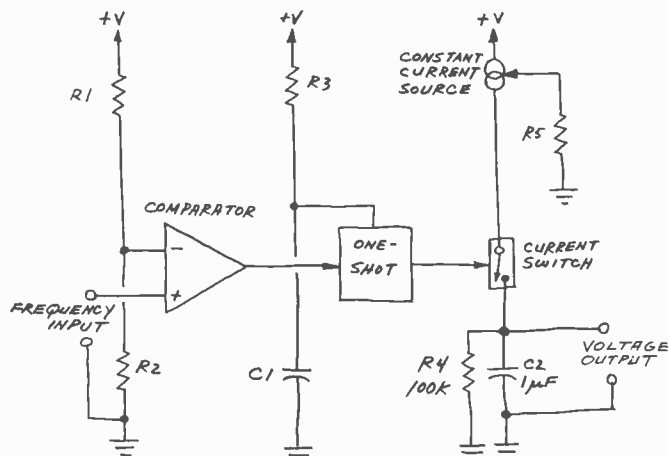
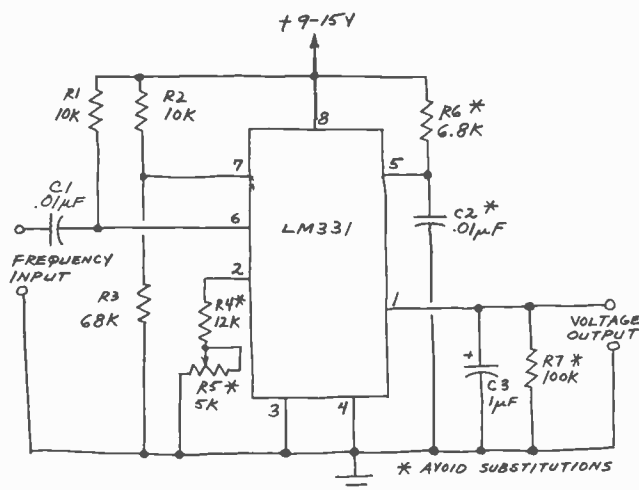
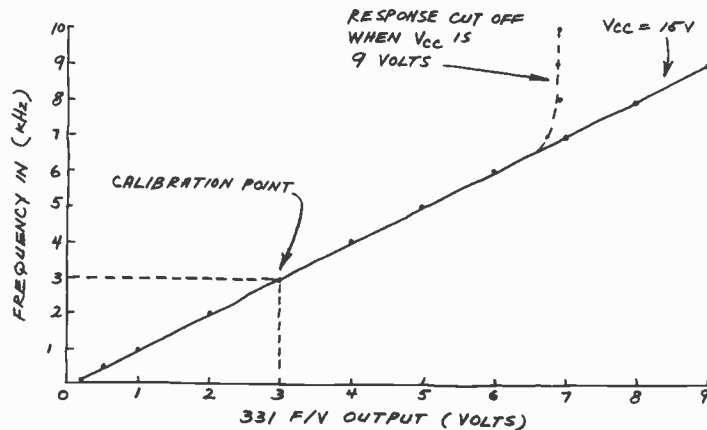

Fig. 1. A typical frequency-to-voltage converter.
Fig. 2. Frequency-to-voltage (F/V) converter using LM332.
Fig. 3. Plot of output voltage vs. input frequency for a frequency-to-voltage converter using an LM331.
**Zener Diode.** A simple circuit in which a zener diode is the regulator element is shown in Fig. 1. Also shown is a typical zener-diode characteristic curve. In the  $V+$  forward-bias region, the zener diode behaves much like any other silicon diode that conducts a +I forward-current when  $V+$  is greater than about 0.6 volt. In the  $V-$  reverse-bias direction, however, there is a distinct difference between zener and conventional silicon-diode behavior.
*Fig. 1. Zener-diode reference supply. The circuit is shown at A, while the characteristic curve is below at B. The fact that the zener voltage is dependent on temperature must be kept in mind in circuit design.*
Unfortunately, temperature cannot always be maintained constant in practical circuits, especially where cost is a factor. An attempt at solving temperature dependence by using several zener diodes to produce the desired  $V_O$  output voltage is shown in Fig. 2. The actual  $V_Z$  value for the different diodes will vary with changes in temperature, but if all diodes used are in the same thermal environment, any temperature change affects all diodes equally. The output voltage, which is the differential voltage between the two points shown, remains constant regardless of temperature changes. Output potential  $V_O = (V_5 + V_6) - V_3$ .
A problem with circuits such as that shown in Fig. 2 is that the output voltage is not ground referenced. If a ground-referenced potential is required,  $V_O$  should be applied across the differential inputs of an operational amplifier. The output potential from the op amp would then be the product of op-amp gain  $A_V$
**F/V Conversion.** The F/V operation of a V/F converter chip is very straightforward and is even easier to understand than operation of the same IC in its V/F mode. Figure 1 is a simplified functional diagram of the LM331 connected as a F/V converter.
Incidentally, can you think of a drawback to the basic circuit in Fig. 1? (Hint: Consider the time constant  $R4C2$ . How will this affect the circuit's ability to respond to an input signal whose frequency is rapidly changing?)
**LM331 F/V Converter.** In last month's column, I described some straightforward V/F applications for the LM331. Shown in Fig. 2 is a working F/V converter whose operation is similar to that of the functional diagram in Fig. 1. This schematic shows how to use the LM331 as a simple F/V converter.
In operation, the incoming signal is coupled to the comparator in the LM331 via  $C1$ . Resistors  $R2$  and  $R3$  provide the reference voltage to the comparator. The operation of the one-shot in the LM331 is determined by the time constant  $R6C2$ , and the output signal is filtered by  $C3$  and  $R7$ . Potentiometer  $R5$  provides a very useful calibration feature. Together with  $R4$ , it controls the current that charges  $C3$ . In short,  $R4$  and  $R5$  in Fig. 2 are equivalent to  $R5$  in Fig. 1.
Figure 3 shows the highly linear response of a breadboard version of the circuit shown in Fig. 2. When the circuit was powered by a
For both tests,  $R5$  was used to calibrate the circuit so that a 3000-Hz input would result in a 3.00-volt output and that a 1000-Hz change in the input frequency would cause the output to change by precisely 1.00 volt. This very simple alignment procedure yielded excellent results, as Fig. 3 indicates.
The transmitter portion of the circuit is essentially identical to Fig. 2 in last month's column. The only significant change is the addition of R7, a miniature 8-ohm speaker and an infrared LED. Resistor R7 is required to limit current through the LED to a safe value. The speaker is entirely optional. Because the frequency of the pulse train generated by the transmitter's V/F converter remains within the audio range, the speaker provides a convenient way of monitoring the circuit's operation, particularly during preliminary testing and evaluation. The speaker can be removed later if desired.